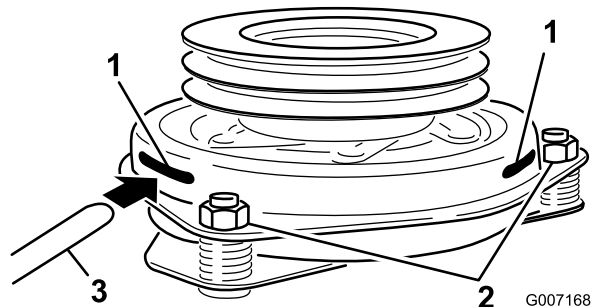

Figure 9
9. Insert a 0.015–0.021 inch (0.381–0.533 mm) feeler gauge through one inspection slot in the side of the assembly. Make sure it is between the armature and the rotor friction surfaces (Figure 9).
10. Tighten the lock nuts until there is slight binding on the feeler gauge but it can be moved easily within the air gap (Figure 9).